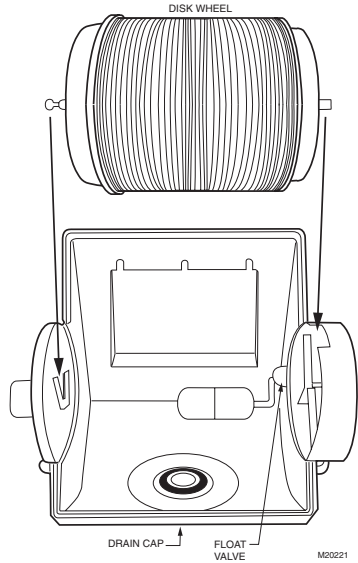

Fig. 4. Disassembling disk humidifier.
6. Disassemble the humidifier; remove the cover and take out the disk or drum assembly. See Fig. 4 or 5.